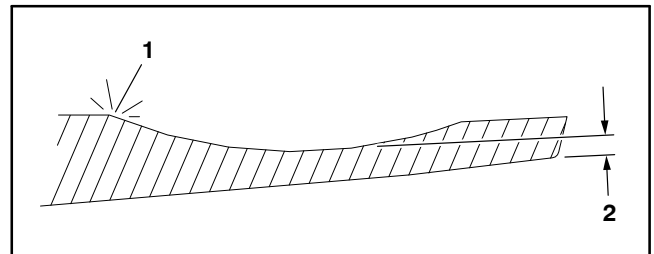

Figure 23
**IMPORTANT: Do Not grind the bedknife below its service limit (Fig 23). Operating the cutting unit with the bedknife below the service limit may result in poor after-cut appearance and reduce the structural integrity of the bedknife.**